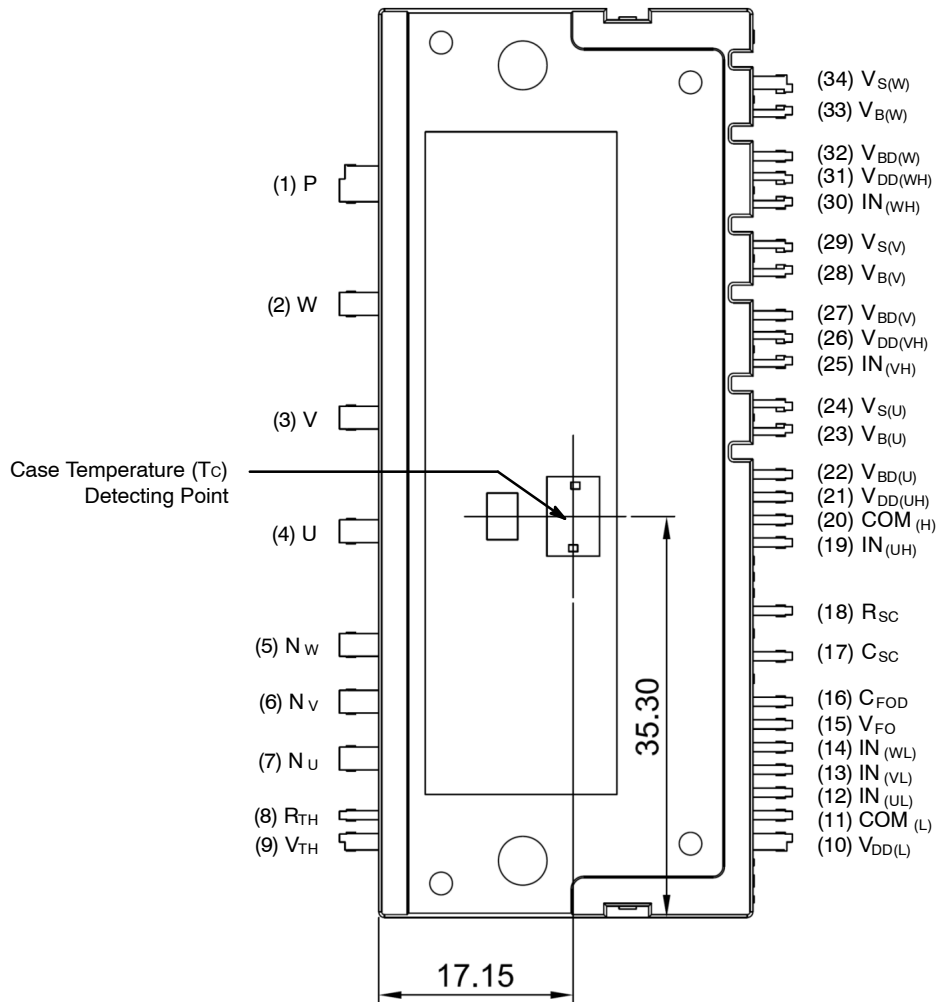

Figure 1. Pin Configuration – Top View
- 1200 V - 50 A IGBT inverter for three-phase DC / AC power conversion (Please refer to Figure 1)
- For the measurement point of case temperature (T_C), please refer to Figure 1. DBC discoloration and Picker Circle Printing allowed, please refer to application note AN-9190 (Impact of DBC Oxidation on SPM[®] Module Performance).